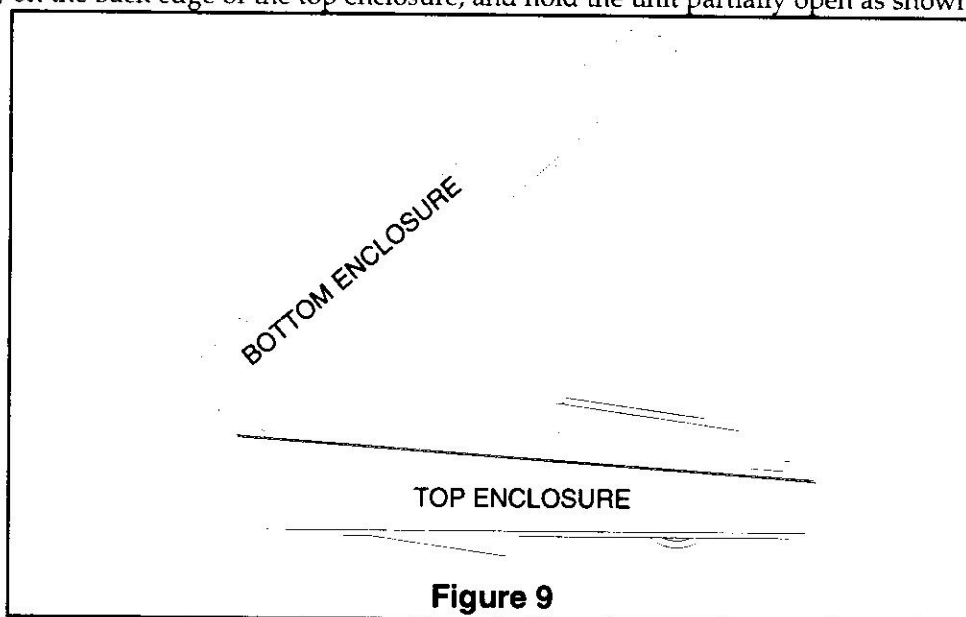

Figure 9
1. See Figure 9. Lift the bottom enclosure, placing its back edge (the edge with the KURZWEIL logo) on the back edge of the top enclosure, and hold the unit partially open as shown.